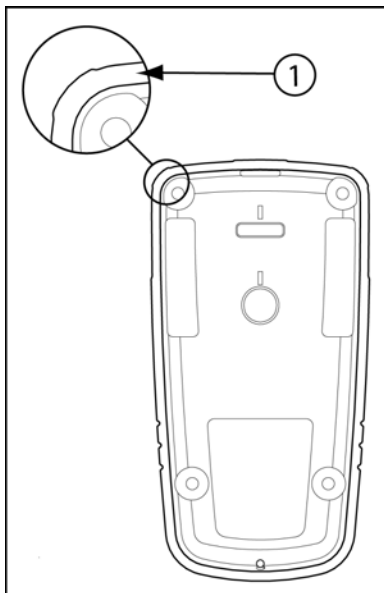

Figure 5. Rear Shell Seal
- Clean the seal on the front and rear shells with a soft damp clean cloth. Do not use solvents, soaps, or polishes. Refer to Figures 5 and 6.
- Clean the seal around the edge of the front and rear shells with a soft damp clean cloth. Do not use solvents, soaps, or polishes. Refer to Figures 5 and 6.